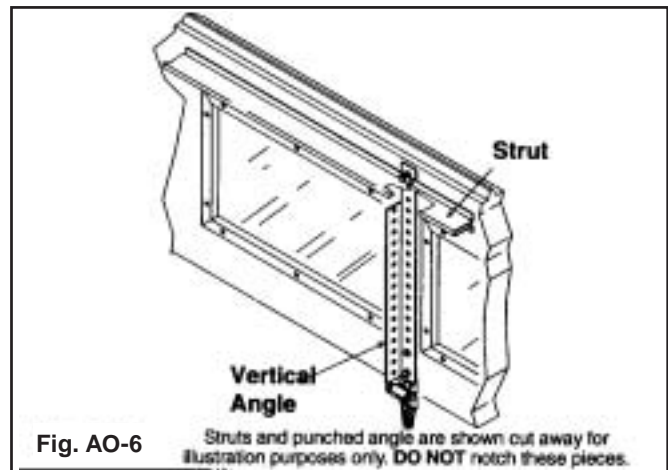

Fig. AO-6
**NOTE:** Doors with struts will require the top portion of angle notched out as shown to allow other leg of angle to be mounted under steel strut. (FIG. AO-6)